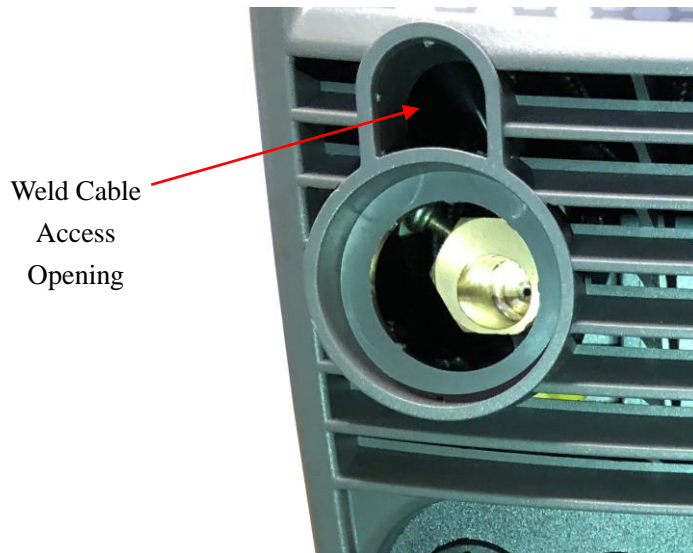

Figure 10
- 2 The MMWEZFSG2 has three connection points at the back of the spool gun. (1) The gas connection is a slide on quick connector. (2) The weld power connection has a round ring connection. (3) The trigger connection is the 5-Pin snap on connector.
- 4 Carefully slide the gas connector and the weld power connection through the weld cable access opening in the front of the machine (Figure 10).